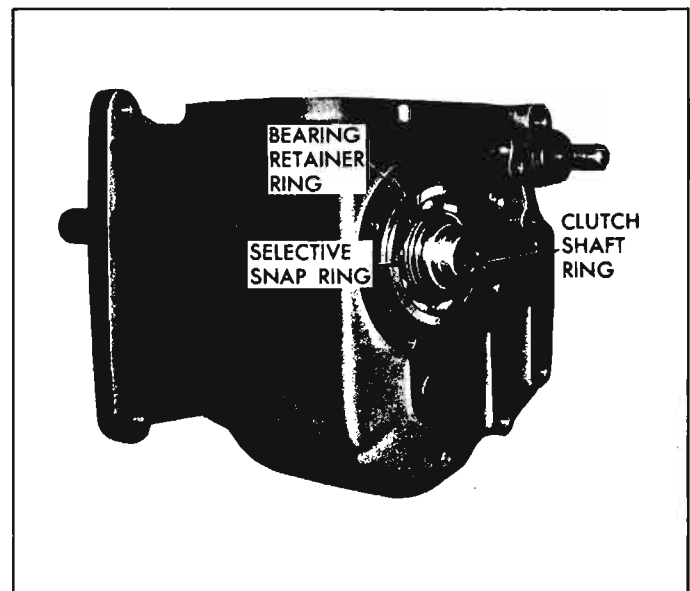

Fig. 6D-53—Clutch Gear and Bearing Snap Rings
15. Retain clutch gear in bearing with selective snap ring (fig. 6D-53). With proper snap ring installed, maximum end play between bearing and snap ring will be .005".